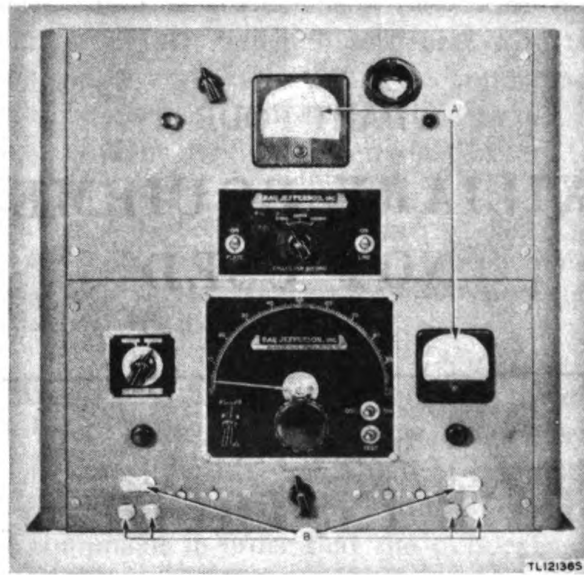

Figure 12. Crystal Test Set TS-314/FSM-1, front view showing method of masking.
(5) Cover the face of the two meters (A, fig. 12), located on the front panels, with paper and fasten in place with masking tape.
(6) Cover the crystal jacks of the oscillator section with masking tape (B, fig. 12).